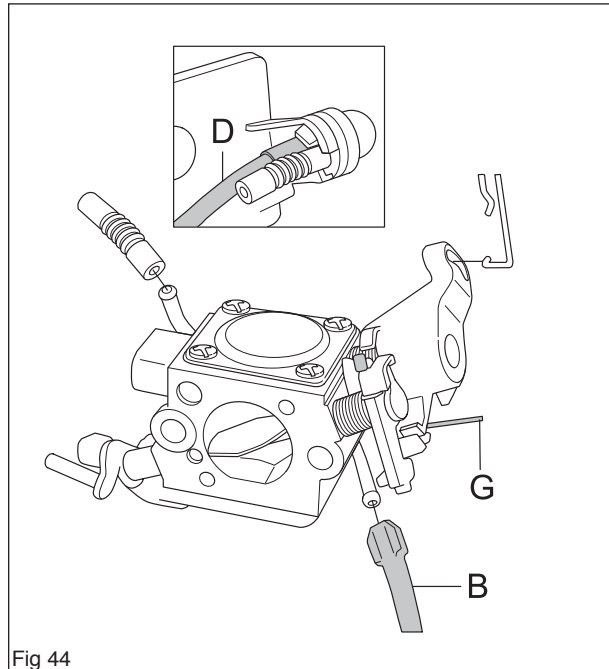

Fig 44
3. Unhook the throttle cable (G) from the carburettor. (see figure 44)
4. Dismantle the fuel hose (B) and the fuel pump return hose (D). (see figure 44)
4. Fit the fuel hose (B) and fuel pump return hose (D) on the carburettor. (see figure 44)
5. Insert the throttle cable casing into the carburettor flange bracket and hook on the throttle cable (G) (see figure 44)